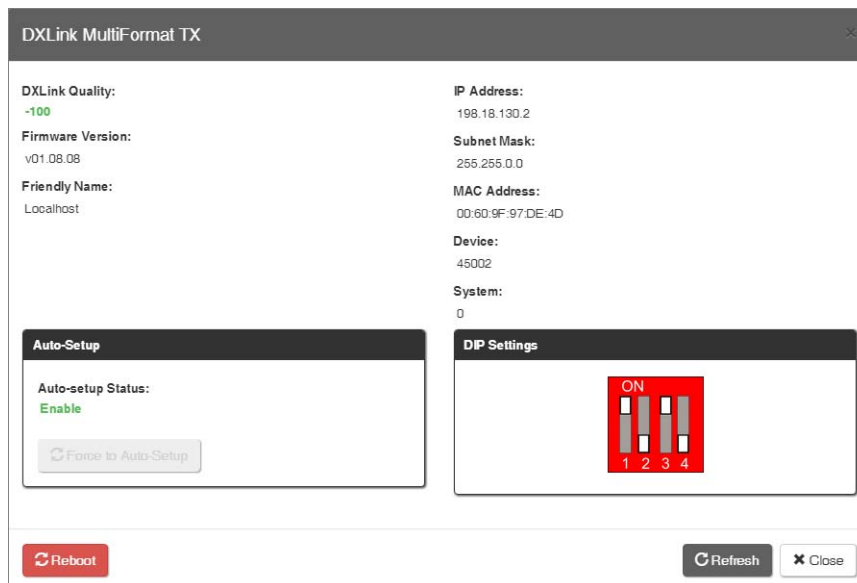

FIG. 109 DXLink (Twisted Pair or Fiber) Transmitters
- DXLink Details button – click to display additional settings for the DXLink Transmitter (FIG. 109)